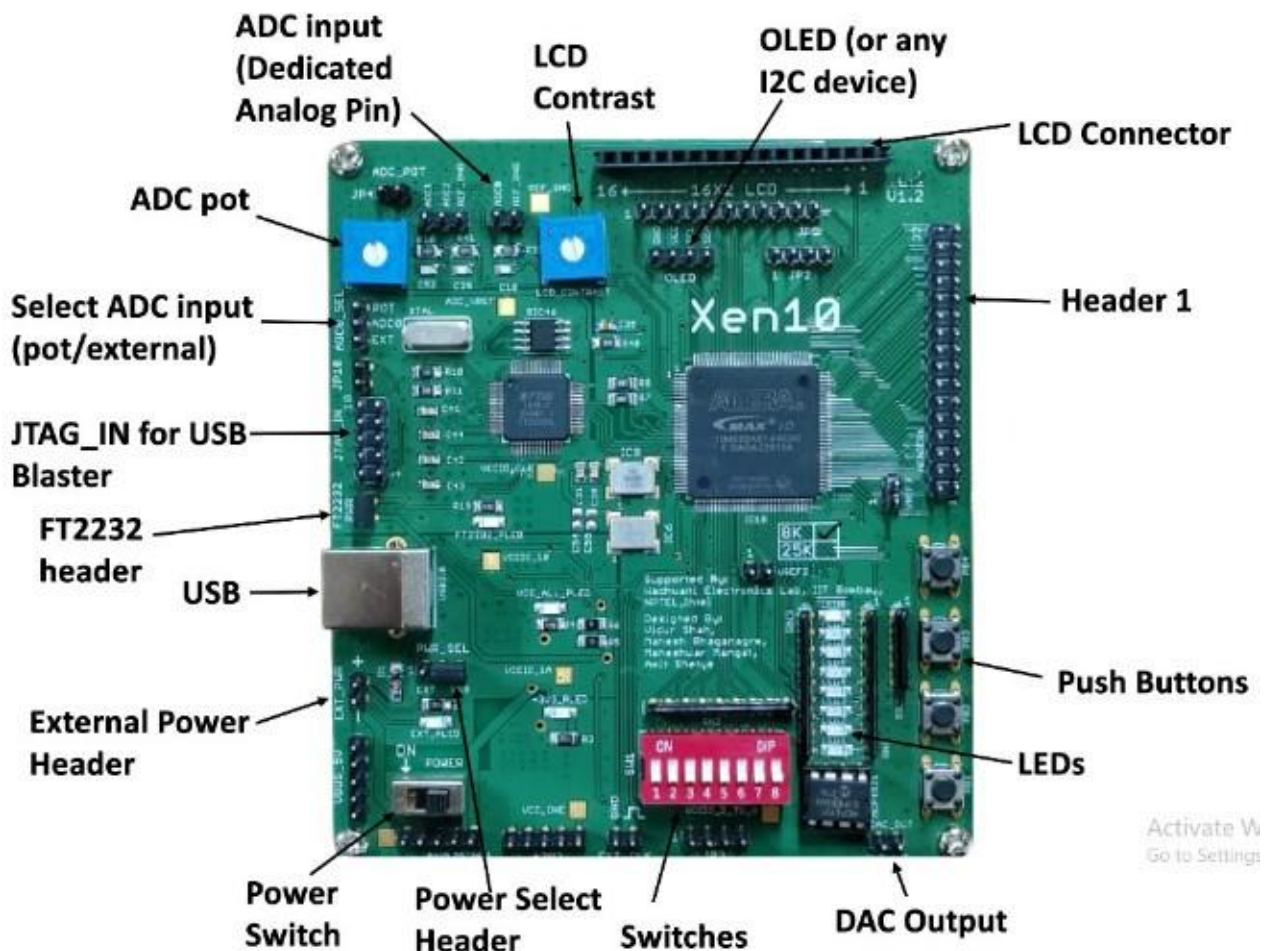

Figure 1: Xen10 topview with labelled features
Xen10 is a 10M25SAE144C8G / 10M08SAE144C8G MAX-10 FPGA-based board developed by Wadhvani Electronics Lab, IIT Bombay, NPTEL, Intel. I/O supply voltage required is 3.3 V. Power supply either through USB or EXT PWR header must not exceed 5 V (refer figure 1 ). This development board is equipped with on chip 12-bit ADC, TSD for temperature sensing, PLL, on-board 12-bit DAC and peripherals consisting of 8-switches, 8-leds, 4-push buttons, 10,50 MHz and 1 Hz clock generators, header connectors for GPIO's, LCD, OLED, I2C, etc. This is a low-cost solution aimed to cater to the needs of undergraduate and graduate electrical/electronics engineering students in a course in digital design and thereafter, design of fairly complex digital systems.
Figure 1 shows a top view of Xen10 with detailed labels. Functionality of labelled devices will be discussed in appropriate sections.
2. When interfacing with large number of external peripherals, power the board through a single +5V DC supply either through USB or EXT\_PWR header (refer figure 1) and ensure enough current can be provided by supply.
4. If programming board using USB Blaster through JTAG\_IN header (refer figure 1) then ensure the FT2232\_PWR jumper is disconnected.